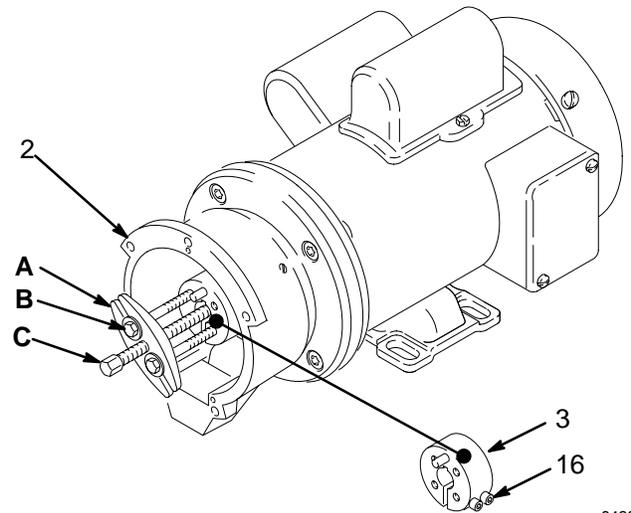

Fig. 30
**NOTE:** Refer to Fig. 30.
1. Loosen the two screws (16) on the clamp (3), working through the slot at the bottom of the clutch housing (2).
2. Install two screws (B) of the tool (A) in two of the threaded holes in the clamp (3). Tighten the screws (C) until the clamp comes off.